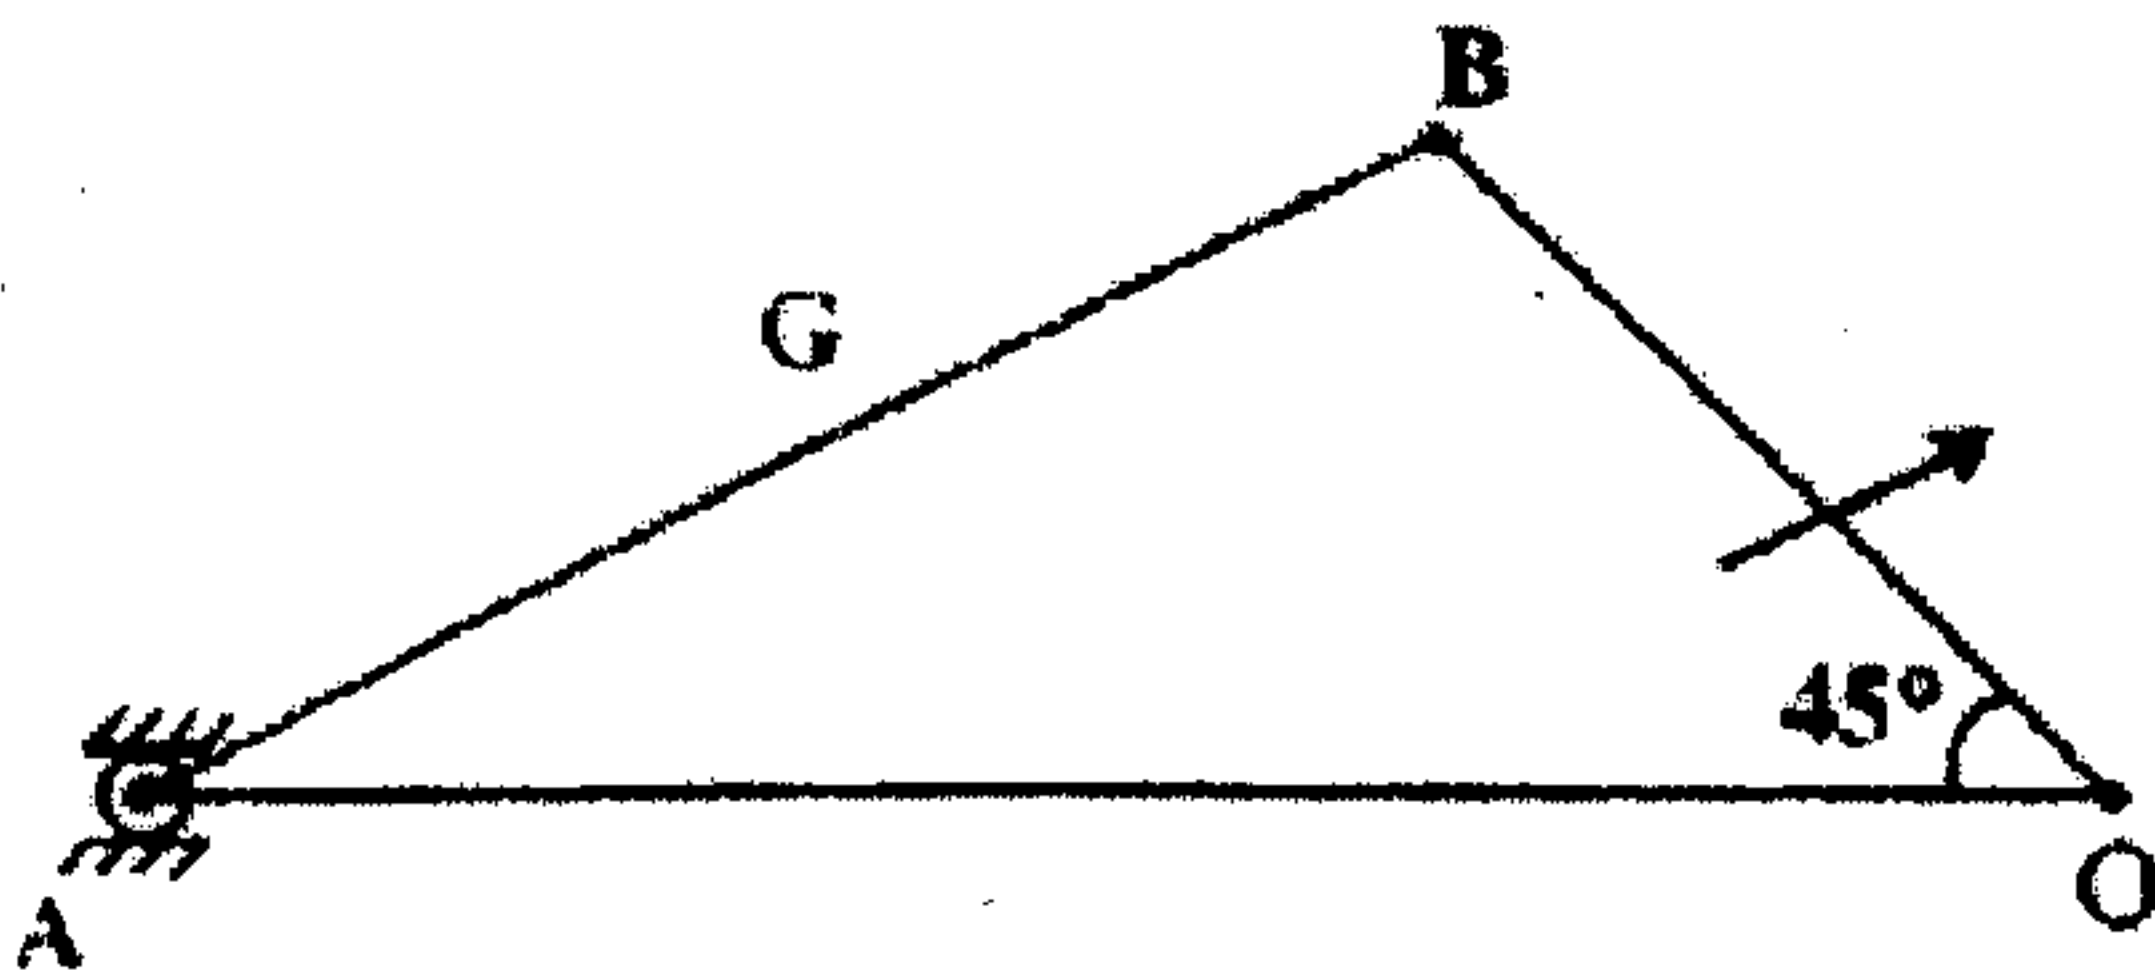

Figure 3
14. The engine mechanism shown in Figure 3 has crank  $OB = 50$  mm and Length connecting rod  $AB = 225$  mm. The centre of gravity of the rod is at  $G$ , which is  $75$  mm from  $B$ . The engine speed is  $200$  rpm for the position shown. Find the acceleration of  $G$  and angular acceleration of link  $AB$  using kien's construction method.